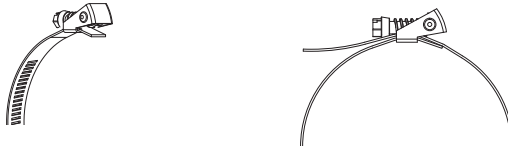

Fig. 9.4: Quick release clasp
- Insert the tension strap into the clasp (see Fig. 9.4).